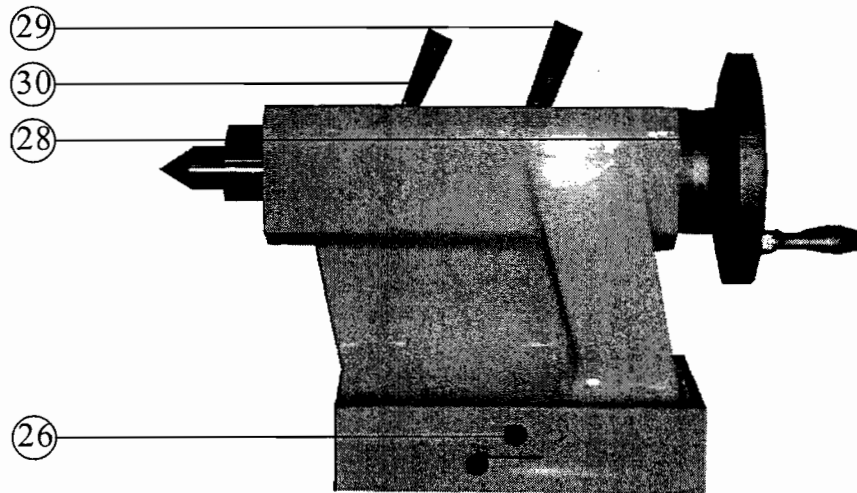

Fig. 4-12
2. To lock the quill, push locking lever forward. (30 Fig. 4-12).
3. The centerline of the tailstock can be adjusted using gib adjusting screws 26 on Fig.4-12. After adjusting, be sure to tighten the gib screws on both sides.